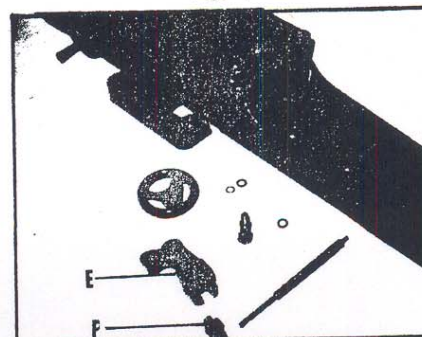

Fig. 5
6. Remove the bell crank (E) and the adjusting nut (F) Fig. 5, from the jointer.